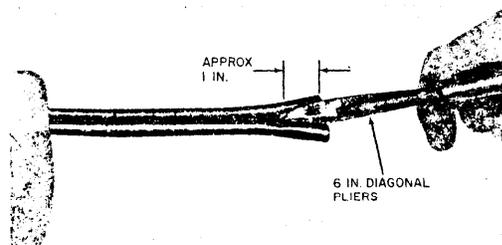

Fig. 16 - Cutting Web With Diagonal Pliers
6.01 Prepare multiple pair ASW for termination in accordance with Fig. 16 through 19.